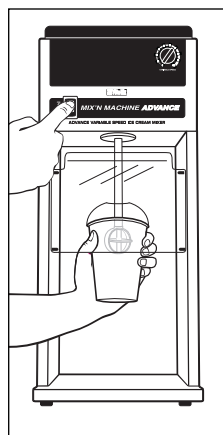

Figure 6
Press ON/OFF power switch to OFF to stop the machine. See Figure 6.
**Wall Mount):** Press ON/OFF power switch to OFF to stop the machine. See Figure 6.